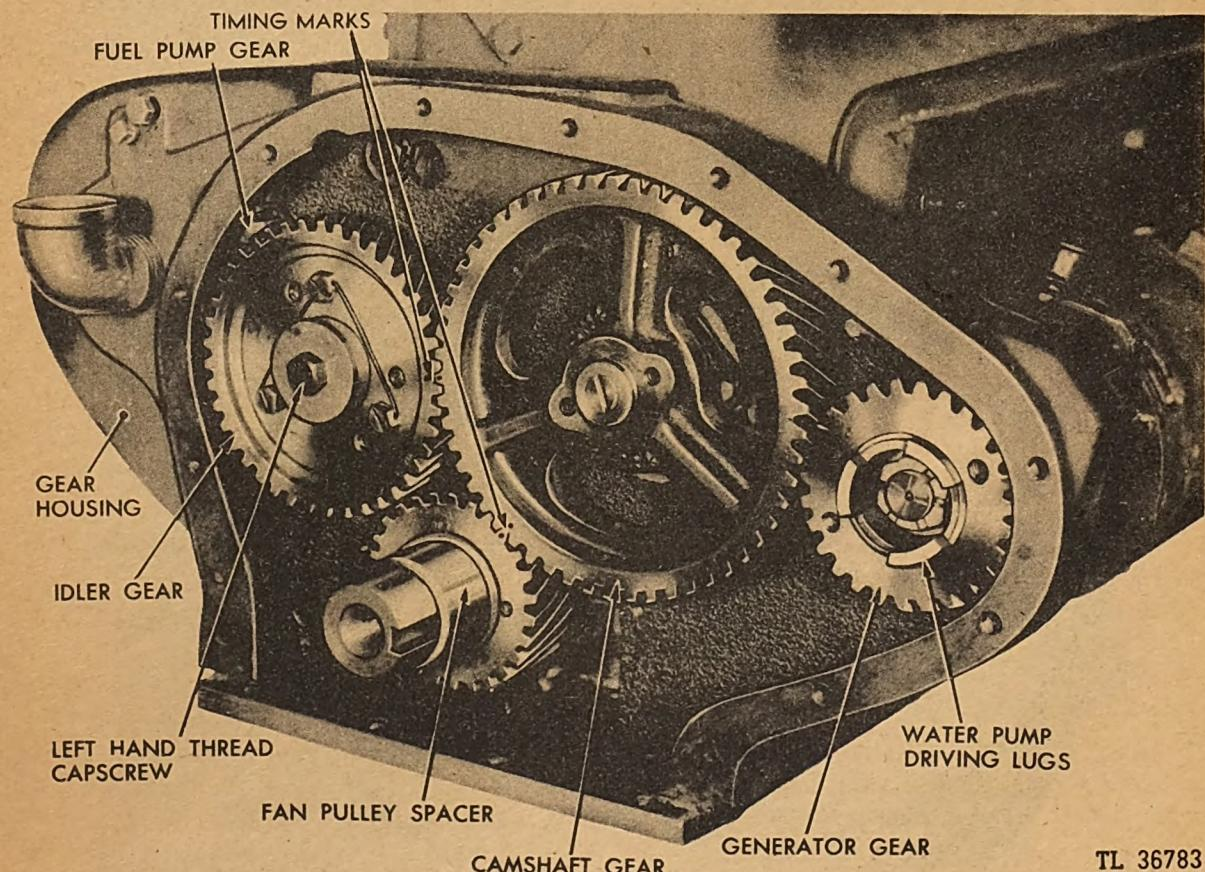

Fig. 131. Gear Train
c. *Checking Crankshaft Gear.* Check the crankshaft gear for wear. If worn excessively, replace the gear with the same size as marked on the old gear, with due allowance for wear. See paragraph 55a. If the gear is replaced, and the replacement has no timing marks, be sure to transfer the timing marks from the old gear to the new gear. Refer to Figure 131.
imposed between the two. (See Figure 131.) The camshaft and fuel pump shaft turn in the opposite direction of the crankshaft. The gears are on fixed centers and adjustments are made by selecting oversize or undersize gears.
**a. Checking Gears.** The crankshaft, idler, camshaft and fuel pump gears should be fitted with .0005 to .0015 inch backlash; water pump gear maximum, .012 inch backlash. See Figure 131 for picture of the entire gear train. Refer to paragraphs 48g and 48e, and Figure 90, for method of checking the backlash of the gears.